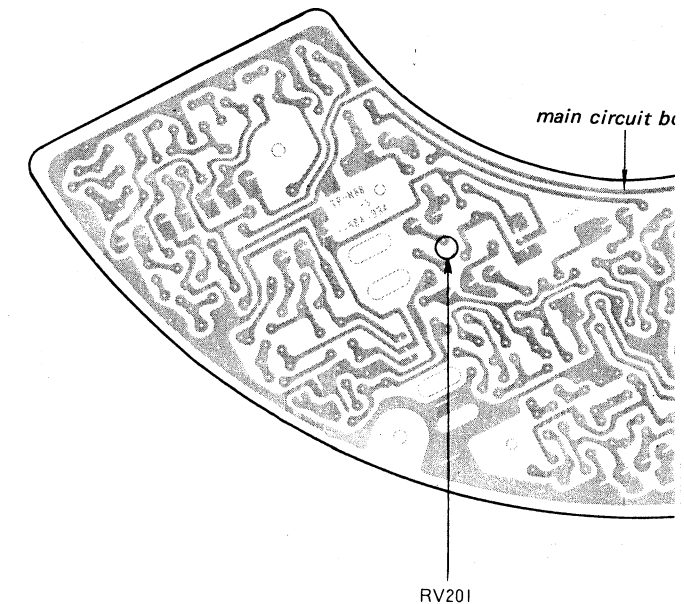

Fig. 3-4
1. Connect the VOM across TP4 and ground as shown in Fig. 3-4.